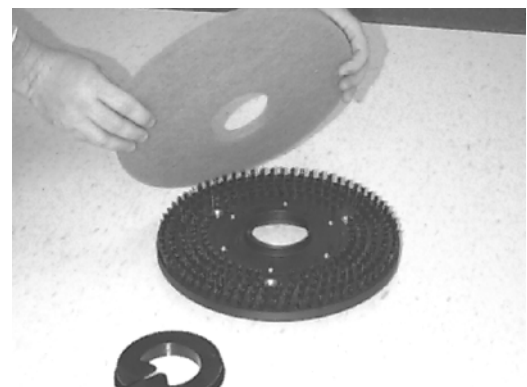

FIG. 7
- (For Pad Installation)** Attach pads to pad drivers before connecting drivers to motor hub. To attach pad to driver, remove plastic centerlock ring from pad driver. Position pad on pad driver and replace centerlock ring (Figure 7).